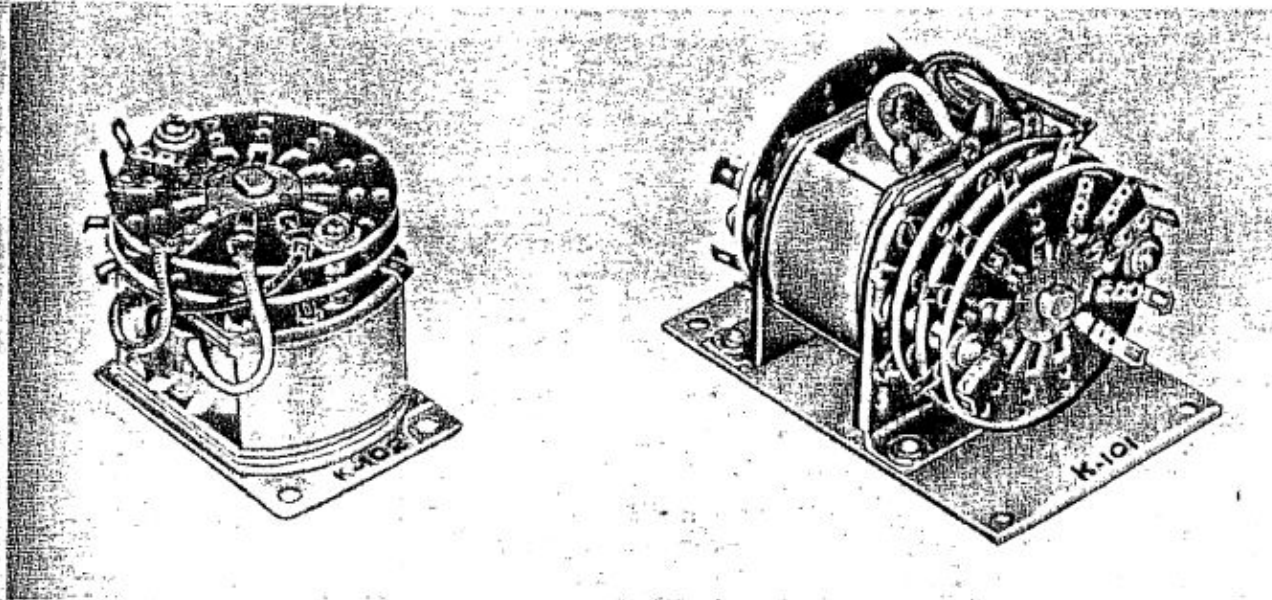

Figure 5-9. Loop and Antenna Relays K-101 and K-102
(1) Operate Radio Compass AN/ARN-6 with function switch in "ANT." position. Tune in stations of known power on each band and note whether reception is normal. If trouble is experienced on only one or two bands, proceed as outlined in paragraph 3.f., this section. If unsatisfactory operation is obtained on all bands, proceed as outlined in paragraph 3.g., this section. If "ANT." operation is satisfactory, proceed as follows.
(2) Operate Radio Compass AN/ARN-6 with the function switch in "LOOP" position. Check loop rotation with the "LOOP L-R" switch. If loop rotation is unsatisfactory, proceed as outlined in paragraph 3.b., this section. Should loop rotation be satisfactory in "LOOP," and receiver output normal in both "LOOP" and "ANT.," the difficulty may be in the compass and loop control circuits.
(3) Check for correct operation of antenna relay K-102 and loop relay K-101. (See figure 5-9.) With the function switch in "ANT." position, antenna relay K-102 should be energized and loop relay K-101 should remain in its unenergized position. Switch to "LOOP" and note the loop relay K-102, which is now energized, and antenna relay K-102, which becomes de-energized. In "COMP-ADF" operation both relays should remain unenergized. If either relay does not operate normally,